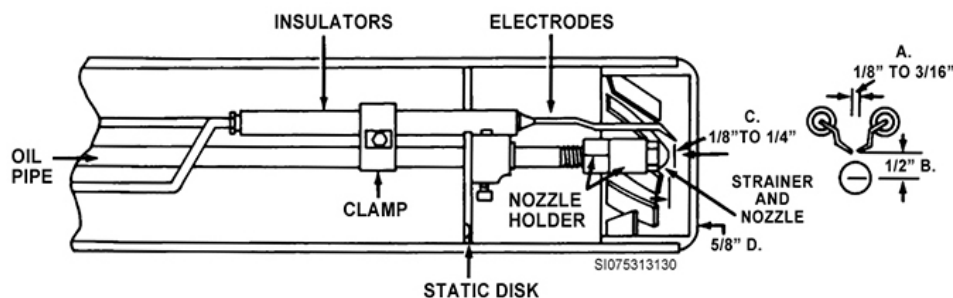
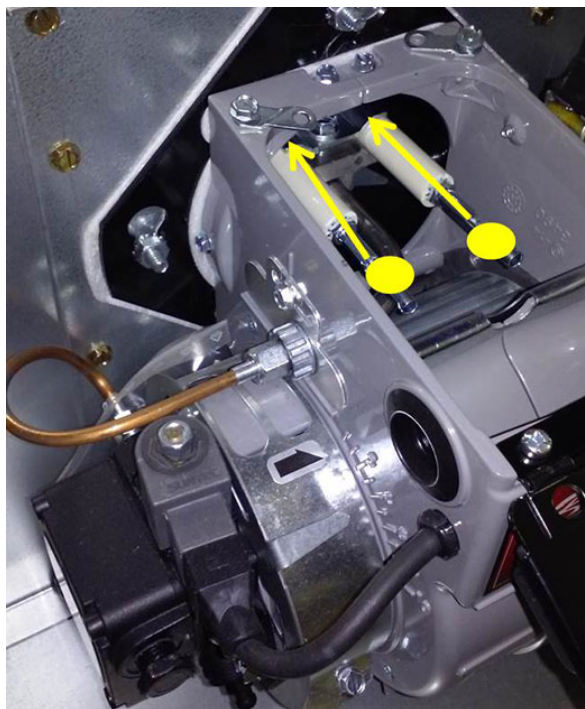
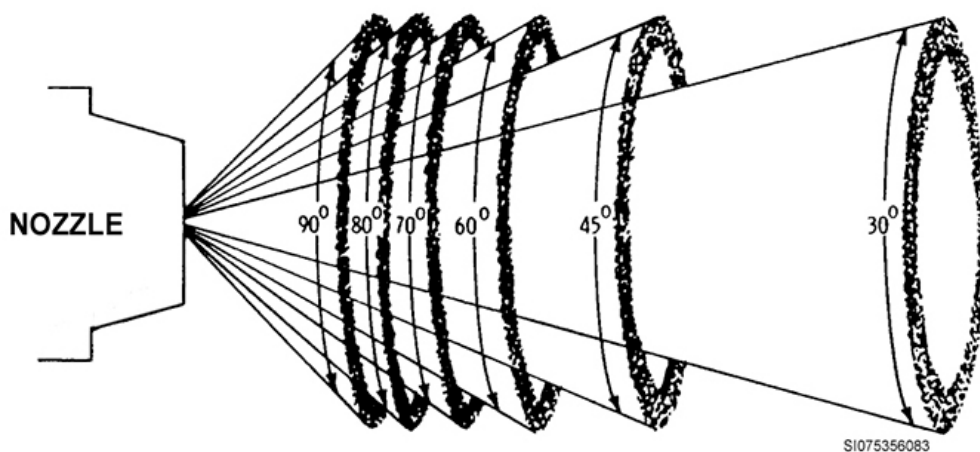

Figure 2-56. Nozzle and electrode assembly.
Figure 2-57. Electrodes connections.
Figure 2-58. Angle of spray.
This includes oil pipe, nozzle holder, nozzle and strainer, electrodes, insulators around the electrodes, a supporting clamp for all parts, and a static disk (fig. 2-56). In figure 2-57, the yellow circles represent where the ignition transformer will connect the electrodes and the arrows represent electricity flowing. Eventually the electricity will reach the tips of the electrodes and spark. The high-pressure, gun-type nozzle has its rating in GPH stamped into its side. The nozzle selected depends on the size of the furnace or boiler. The nozzle has the angle of spray stamped on its side as well (fig. 2-58).
- The spark gap between the electrodes (dimension A in figure 2-56) will depend on the size of the nozzle.